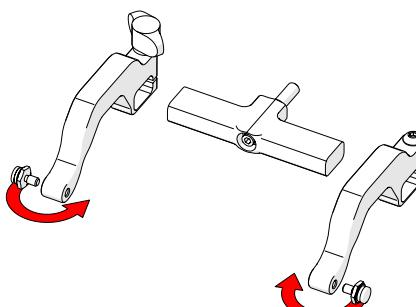

Fig. 131 - Position pivot buttons
**15.** Position the pivot buttons to the inside of the probe holder arms (Fig. 131).